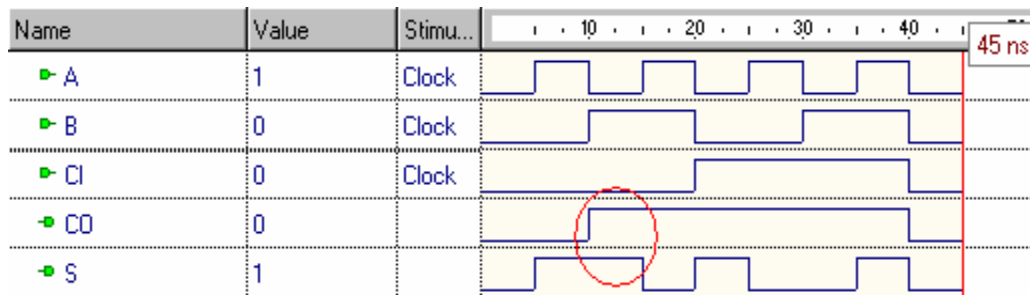

Figure 44
- Now we compiled the design, and it compiled successfully. Therefore, we initialized a simulation, added the signals to a waveform, provided clock stimulators for the signals, and simulated the design. Figure 44 shows the results of this simulation. When comparing the waveform to the expected results (we used a truth table), everything looked fine until we got to the 10 to 15 ns period. The sum should have been 1 and the carryout should have been 0, but both were 1. This showed us that there was a logic error.